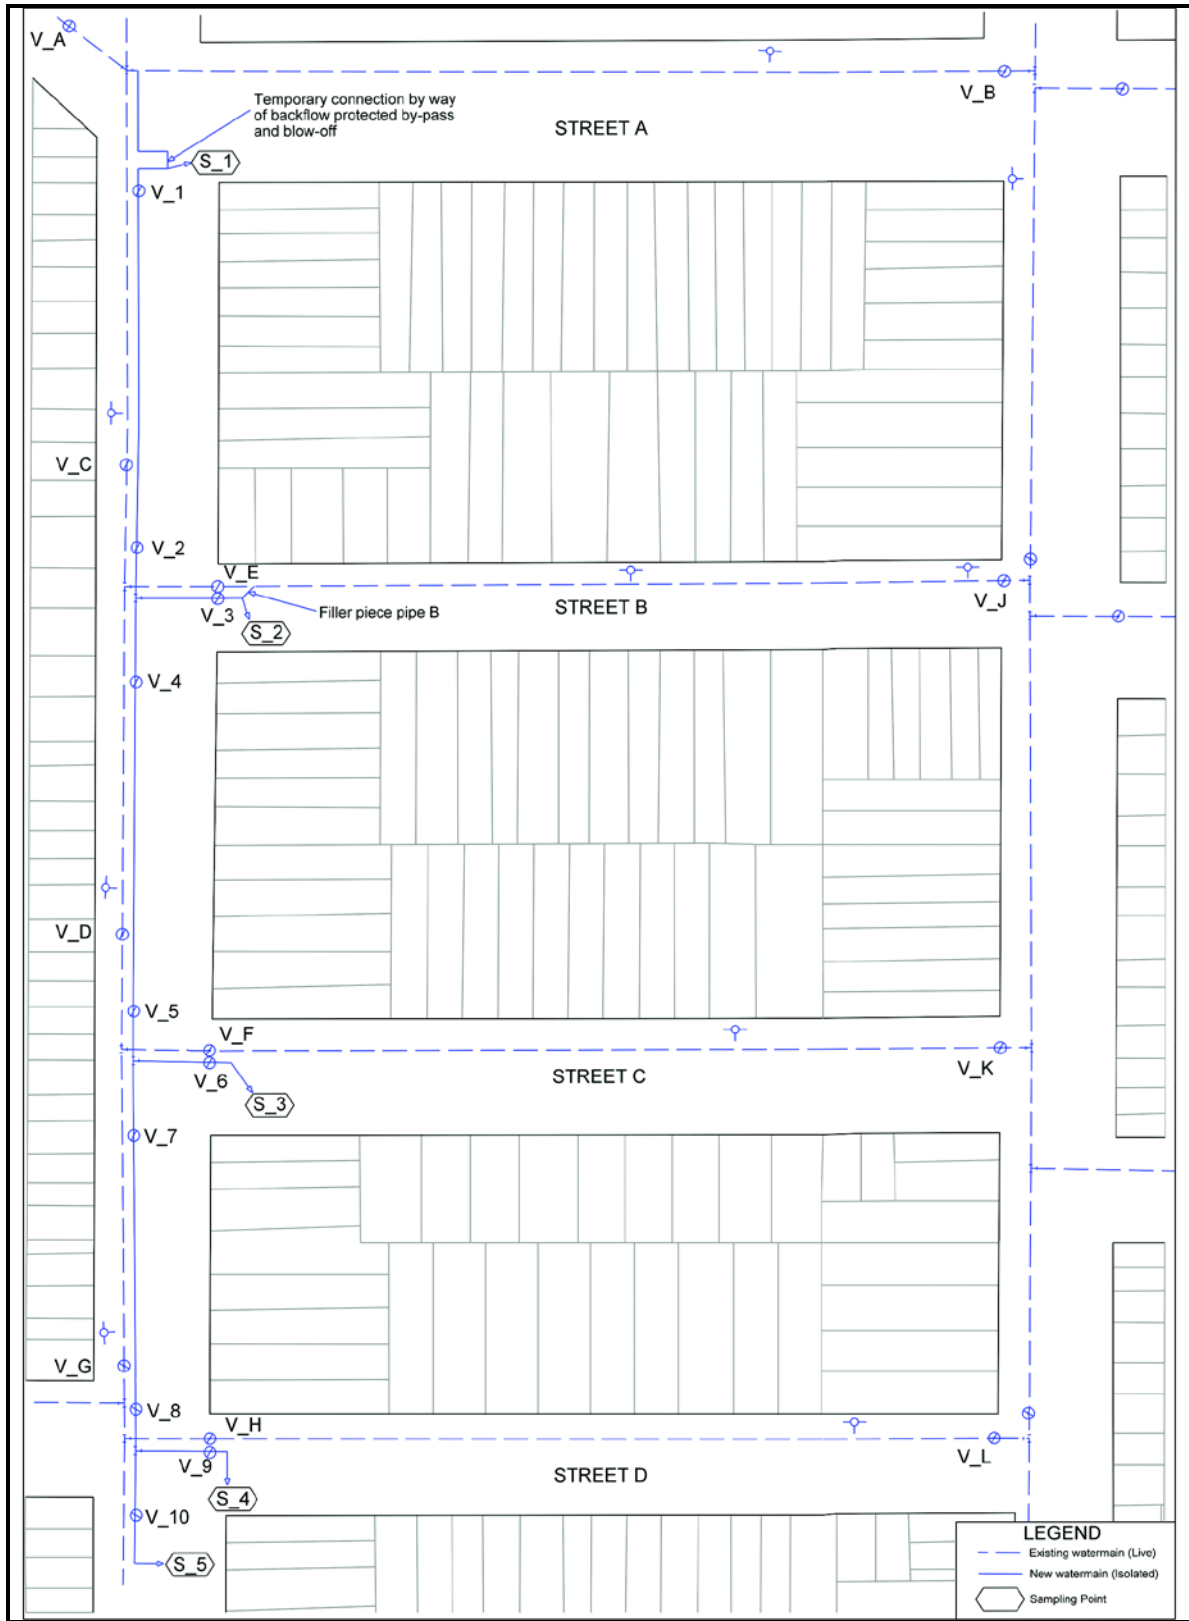
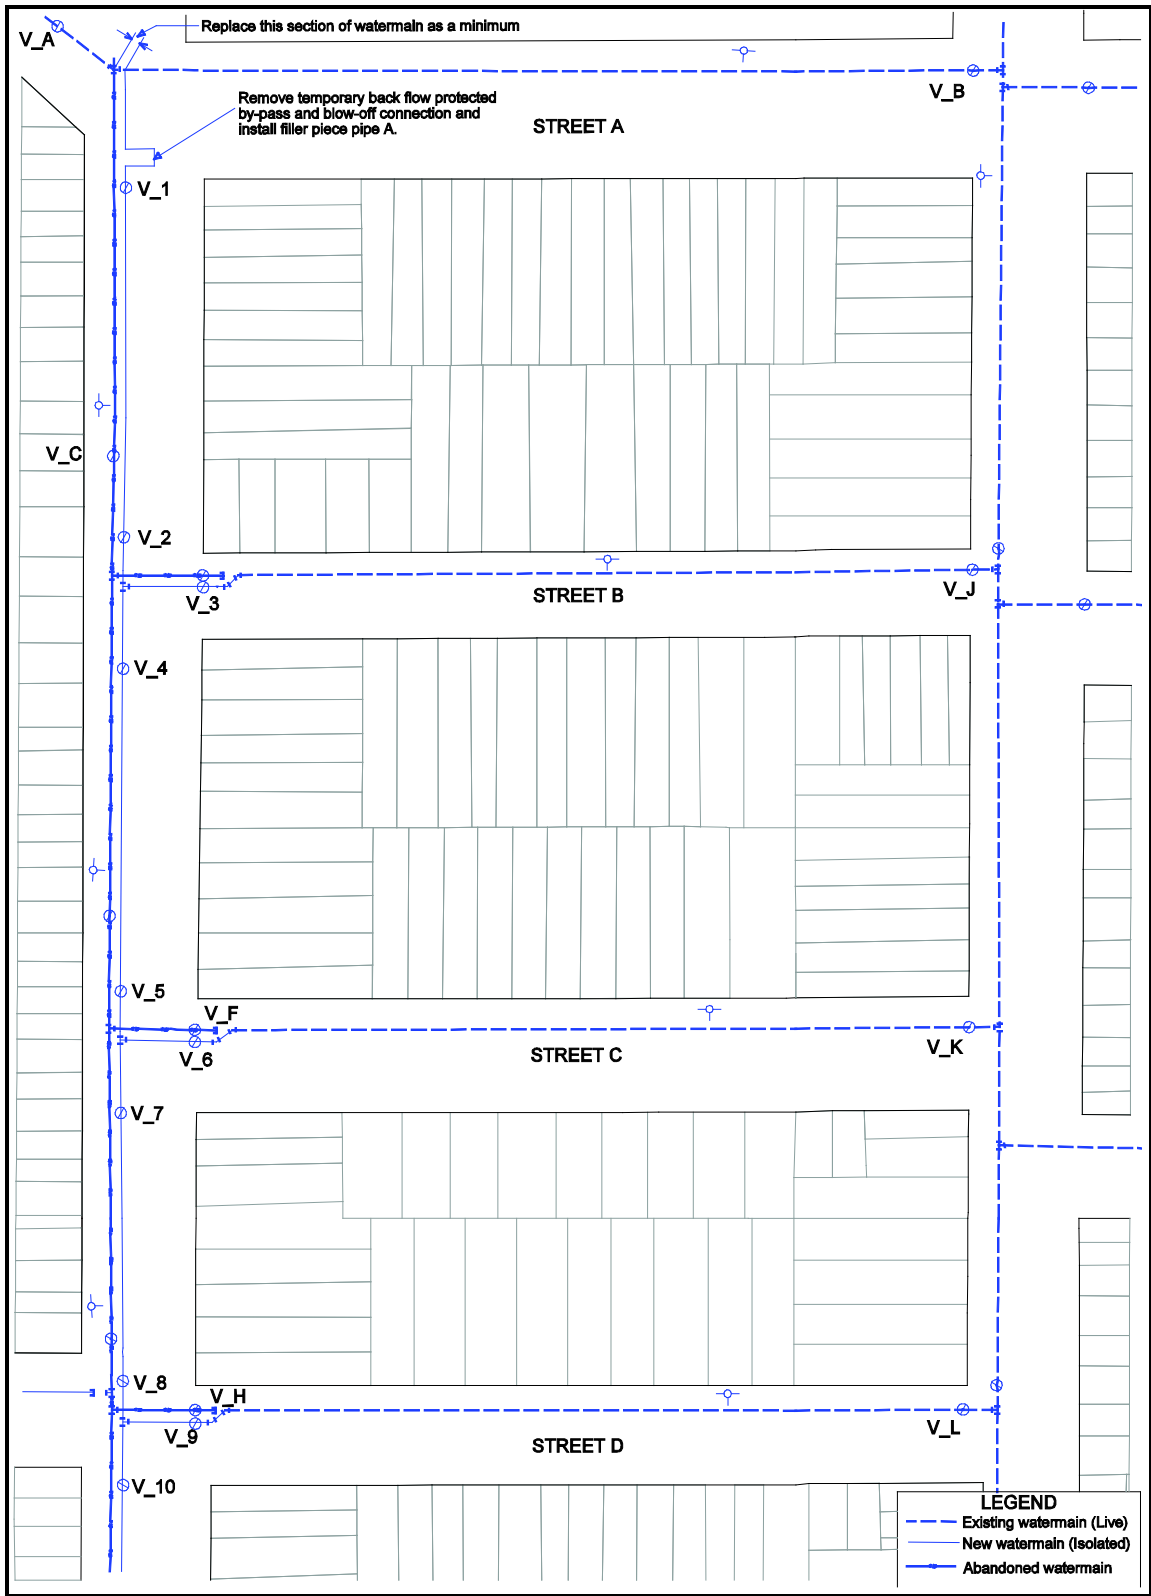

Figure 1: Scenario one – connecting to branch connections
Figure 2: Scenario two – connecting to source feeder watermain
The work involves the procedure for making watermain replacement and connection to an existing watermain system. All work shall be done to the satisfaction of the Contract Administrator. Instructions for making a connection are based on the scenarios in Figure 1 and Figure 2.
- 4** Take two consecutive samples at sampling stations S1, S2, S3, S4 and S5 as shown on Figure 1 and according to TS 7.30 *Procedure for Disinfecting Watermains*.
The following is a typical procedure for the connection of a replacement watermain to an existing watermain on street B as shown of Figure 1.
Procedure for connecting new watermain system to existing watermain system. For this example the connection will be for a permanent connection on street A as shown in Figure 2.